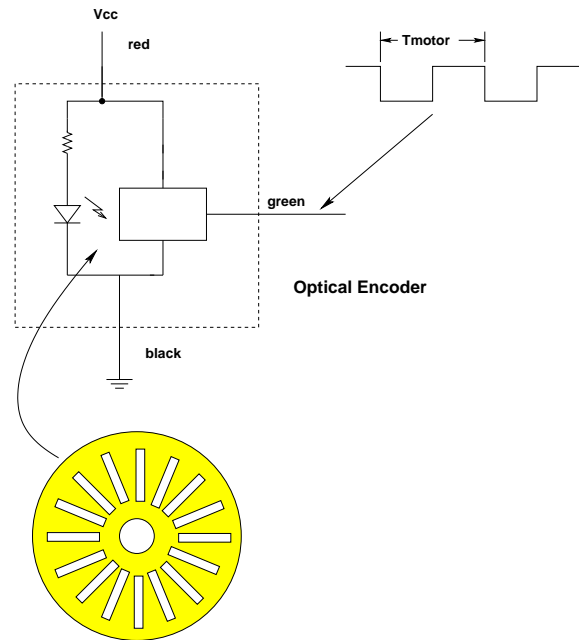

Figure 2: Optical encoder which generates 500 pulses per revolution of the motor.
To make a motor turn at a desired speed it is necessary to know how fast the motor is turning. The motors you will use in this lab have encoders which will generate 500 pulses in a single revolution of the motor. The encoder works as shown in Figure 2. A light emitting diode (LED) sends light through a slotted wheel attached to the shaft of the motor. An optical sensor is used to detect the light. When the light shines through a slot and hits the sensor, the output of the optical sensor is  $V_{CC}$ , a digital 1. When the slotted wheel blocks the light from reaching the sensor, the voltage goes to 0 V, a digital 0. Using this optical encoder you will be able to measure the speed of the motor.
2. Program your HC12 to generate a PWM frequency of 5 kHz, with a PWM duty cycle of 50%. Connect the circuit shown in Figure 2. Look at the output of the optical sensor with a logic analyzer. Verify that the optical sensor is working, and record the period of the signal coming out of the optical encoder. What is the speed at which the motor is turning?